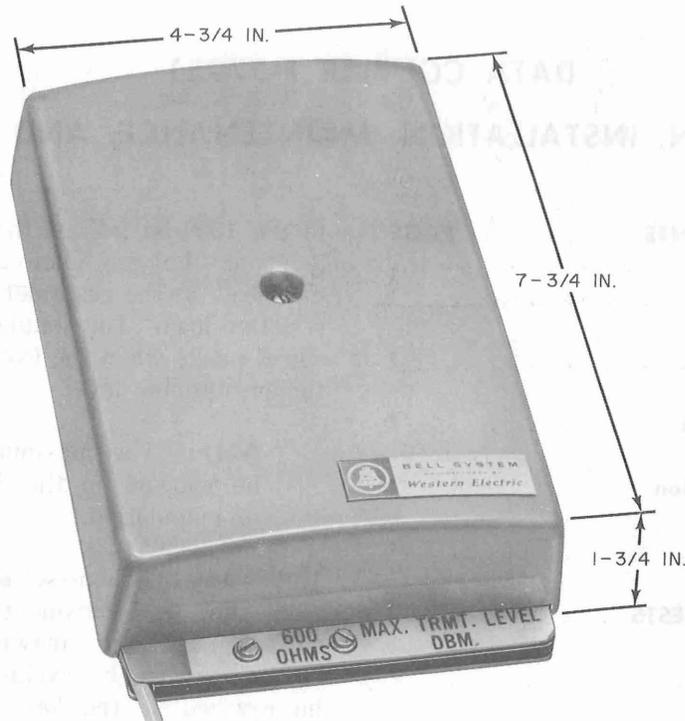

Fig. 1—Data Coupler F-57951
**1.01** This section provides installation and maintenance instructions for Data Coupler F-57951 (Fig. 1). Detailed information is contained in ES- and CD-1D173-02.